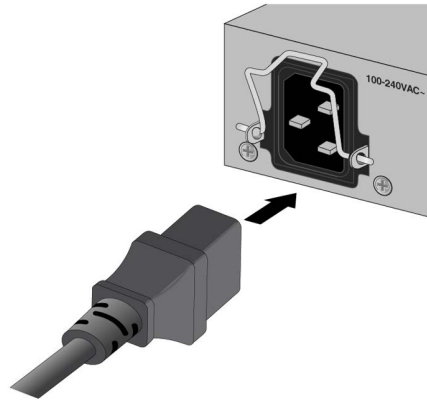

Figure 70. Connecting the AC Power Cord to the Switch
2. Connect the AC power cord to the AC power connector on the rear panel of the switch. Refer to Figure 70.